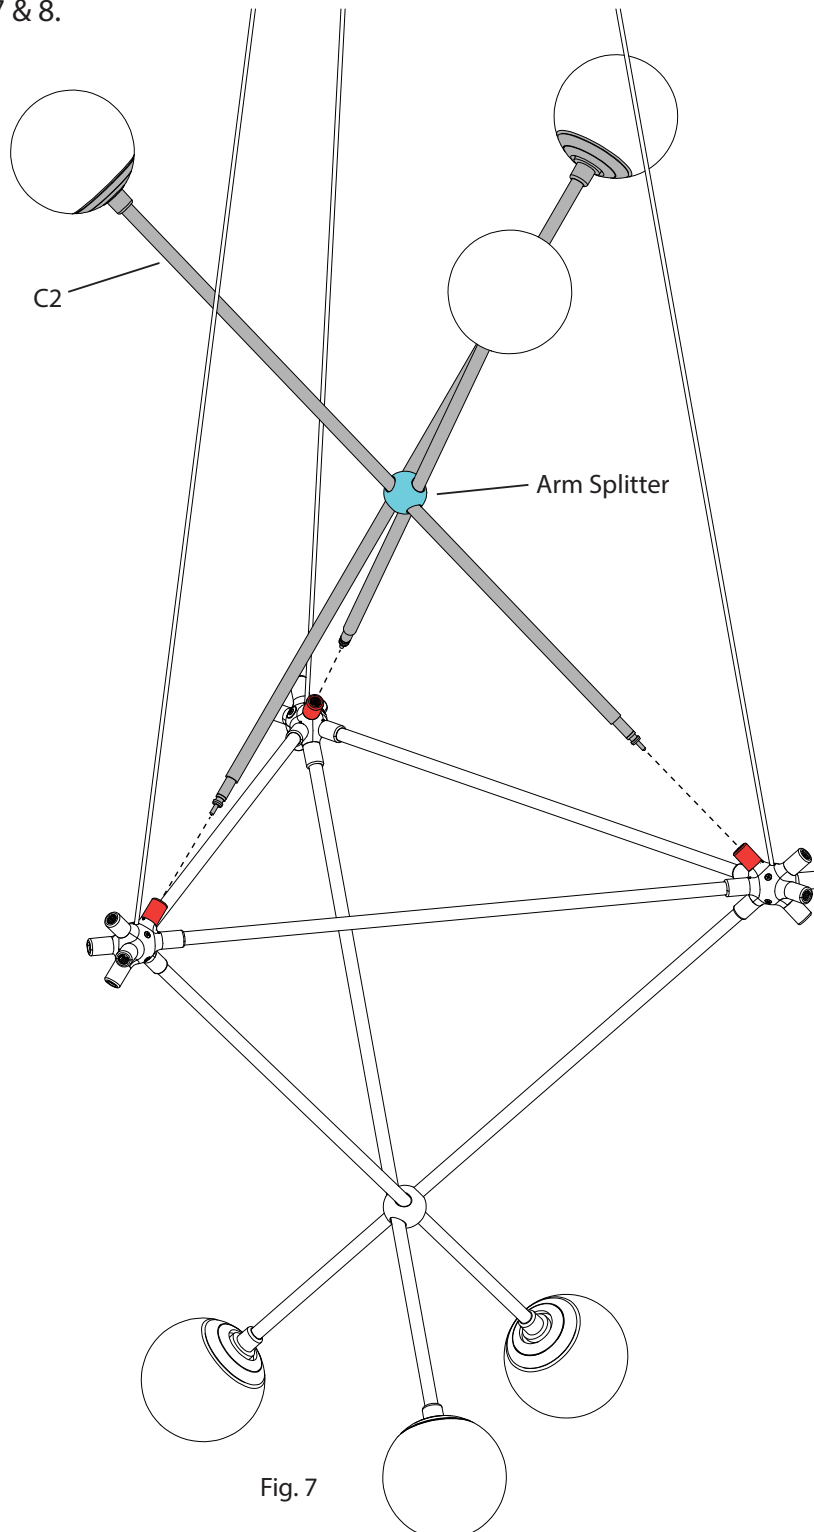

Fig. 7
- a. Repeat the steps of Step 2, but with the upward-facing 'B' ports on the Connectors, as shown in Fig. 7 & 8.
- Connect the C1 arms into the 'C' ports of the Connector in the same manner as in Steps 2 & 3, as shown in Fig. 7 & 8.